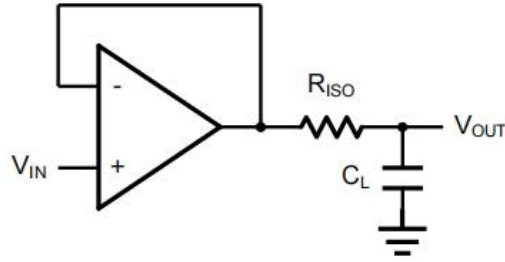
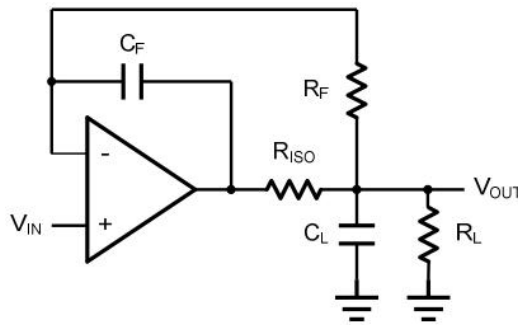

Figure 2. Indirectly Driving a Capacitive Load Using Isolation Resistor
Figure 3. Indirectly Driving a Capacitive Load with DC Accuracy
The HGV863x family is optimized for bandwidth and speed, not for driving capacitive loads. Output capacitance will create a pole in the amplifier's feedback path, leading to excessive peaking and potential oscillation. If dealing with load capacitance is a requirement of the application, the two strategies to consider are (1) using a small resistor in series with the amplifier's output and the load capacitance and (2) reducing the bandwidth of the amplifier's feedback loop by increasing the overall noise gain. Figure 2. shows a unity gain follower using the series resistor strategy. The resistor isolates the output from the capacitance and, more importantly, creates a zero in the feedback path that compensates for the pole created by the output capacitance.
The circuit in Figure 3 is an improvement to the one in Figure 2.  $R_F$  provides the DC accuracy by feed-forward the  $V_{IN}$  to  $R_L$ .  $C_F$  and  $R_{ISO}$  serve to counteract the loss of phase margin by feeding the high frequency component of the output signal back to the amplifier's inverting input, thereby preserving the phase margin in the overall feedback loop. Capacitive drive can be increased by increasing the value of  $C_F$ . This in turn will slow down the pulse response.